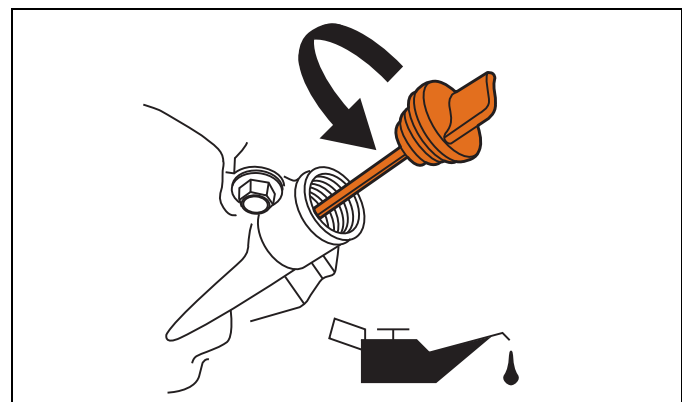

Figure 6-1. Fill Engine Oil
2. Clean area around oil fill and wipe dipstick clean remove oil fill cap (Figure 6-1).
4. Remove oil fill cap (Figure 6-1).